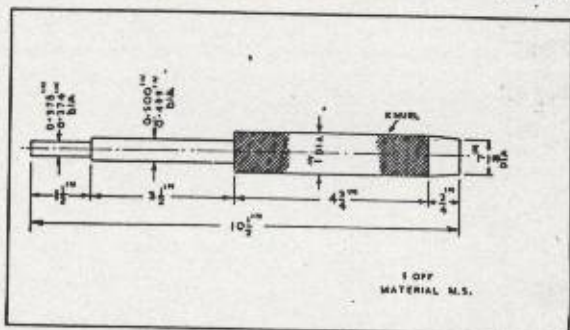

FIG. 3 - TOOL, REMOVING, EXHAUST
11. Manufacture locally a drift to the dimensions given in Fig. 3. Using a copper hammer with light to moderate blows on the drift will give best results and the guide will come out easily and without fear of damage to the cylinder block.